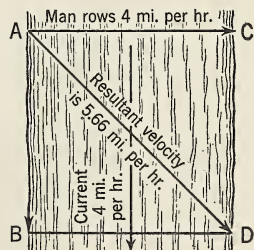

FIG. 206. Velocities are compounded just as we compound forces.
can be plotted in the same manner. In fact we can not only plot velocities, but we can also determine the resultant of two or more velocities acting concurrently. If a man rows a boat across a stream at a velocity of 4 miles per hour, and the current carries the boat downstream with a velocity of 4 miles per hour, we can find the *resultant* velocity by drawing the parallelogram shown in Fig. 206, and calculating the length of the diagonal. If the stream were 4 miles wide, the man would row across in an hour, but he would land 4 miles downstream, unless he kept the bow pointed somewhat upstream. He would actually have traveled along the diagonal of the parallelogram a distance of 5.66 miles ($\sqrt{(4)^2 + (4)^2} = 5.66$).